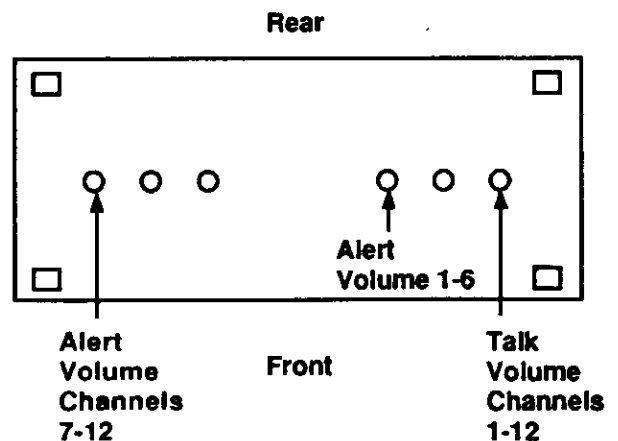

Figure 15 - TALK and ALERT Adjustments
4. Press and hold any one of the channel selection keypads. The red indicator above the keypad will light to indicate the TALK function is selected. Using the small plastic screwdriver (special tool), adjust the internal TALK VOLUME control for the desired talk volume level to be heard over all outside speakers. See figure 15.
7. Activate any one of the channel 1 - 6 outside call switches. Switch closure should cause the yellow indicator above the corresponding keypad to flash and a single or slowly repeating alert tone will be heard from the intracom speaker. If necessary, adjust the channel 1 - 6 ALERT VOLUME, using the small plastic screwdriver (special tool.) See figure 15.
8. Activate any one of the channel 7 - 12 outside call switches. Switch closure should cause the yellow indicator above the corresponding keypad to flash and a single or slowly repeating alert tone will be heard from the intracom speaker. If necessary, adjust the channel 7 - 12 ALERT VOLUME, using the small plastic screwdriver (special tool.) See figure 15.